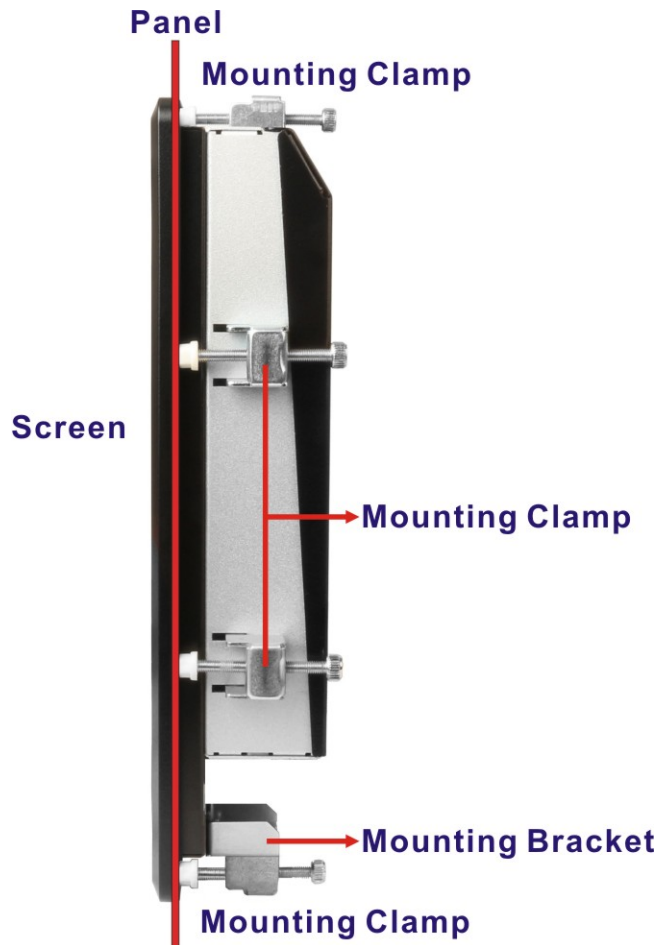

Figure 3-27: Tighten the Mounting Clamp Screws
- Step 5:** Insert the mounting clamps into the mounting brackets and pre-formed holes along the edges of the PPC-FxxA-H81, behind the aluminum frame (**Figure 3-27**). The required number of mounting clamps may vary by models.
- Step 6:** Tighten the screws that pass through the mounting clamps until the plastic caps at the front of all the screws are firmly secured to the panel (**Figure 3-27**).